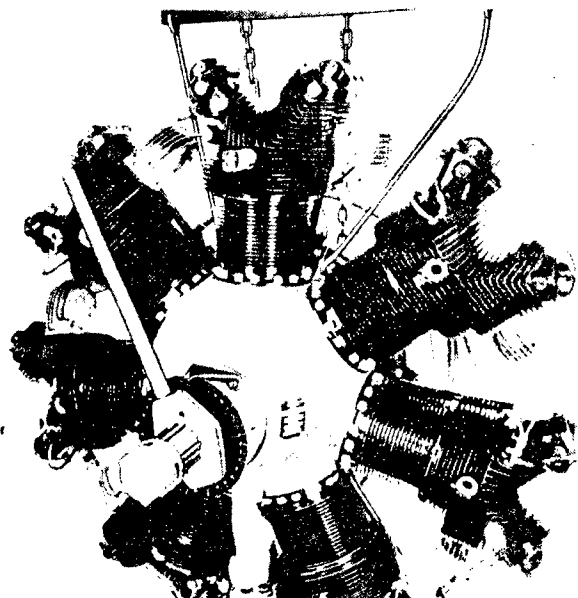

Figure 86 — Timing Tools Installed Prior to Timing Engine
(1) Install gasket between push rod housing flange and case. *INTAKE IS STRAIGHT*
(2) Start the retainer nut into the rocker box three or four turns by hand and then secure flange with two plain nuts, washers and palnuts.
(3) Tighten the retainer in rocker box to 275 to 300 inch-pounds torque.
(4) Tighten the packing flange nut to obtain an oil-tight seal.
5. VALVE TIMING (See Figure 86)